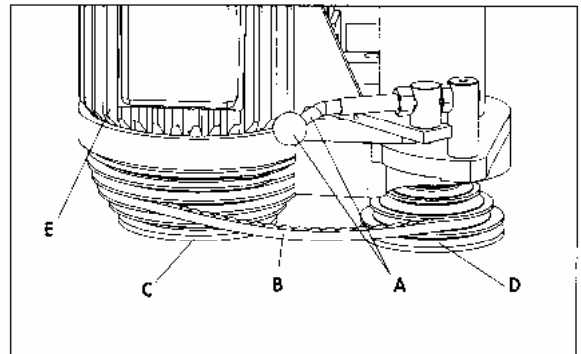
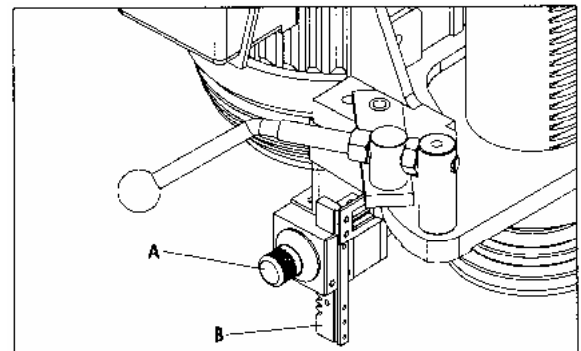

Fig. 3.5
Fig.3.5.1
3. Move belt tension lever (A) Fig. 3.5, to the right as shown, to loosen belt tension. The belt (B) can then be moved to the desired steps of the motor pulley (C) and spindle pulley (D), while at the same time, rotate knob (A) Fig. 3.5.1 to slide speed bar (B) up or down so that the belt will be positioned in the cut-out in speed bar if this device is available on your machine.